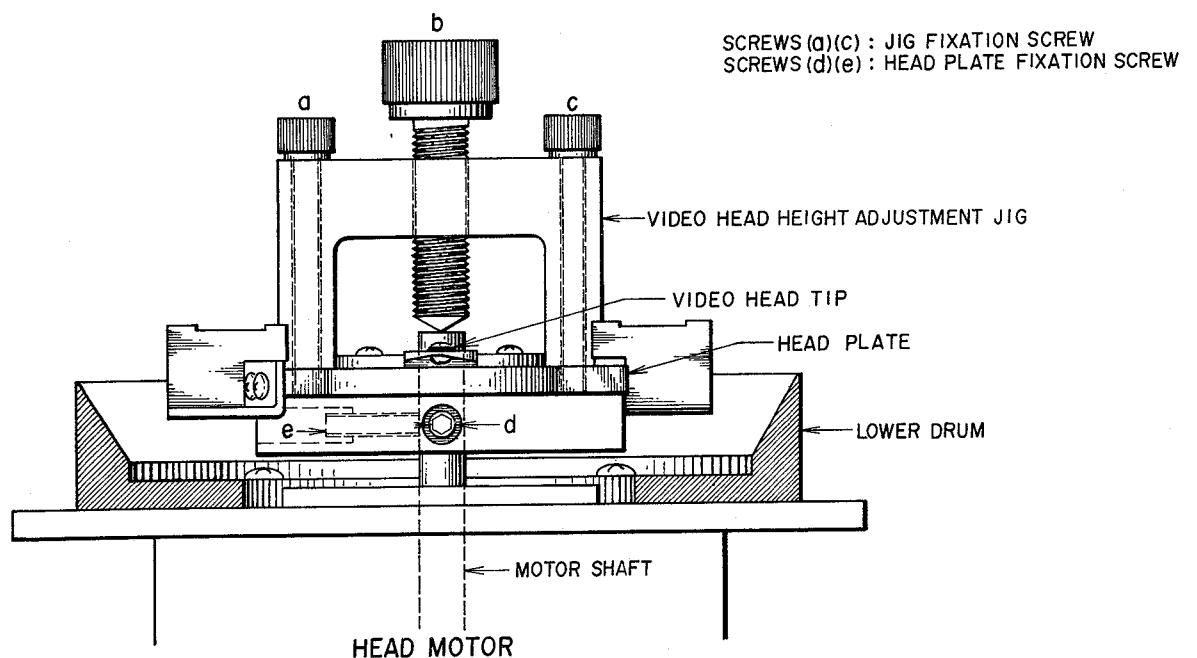

Fig. 1-17 Video Head Height Adjustment
- a) Fit the head height adjustment jig to the head plate (made for angle and protrusion adjustments). As per fig. 1-17, fit jig to upper part